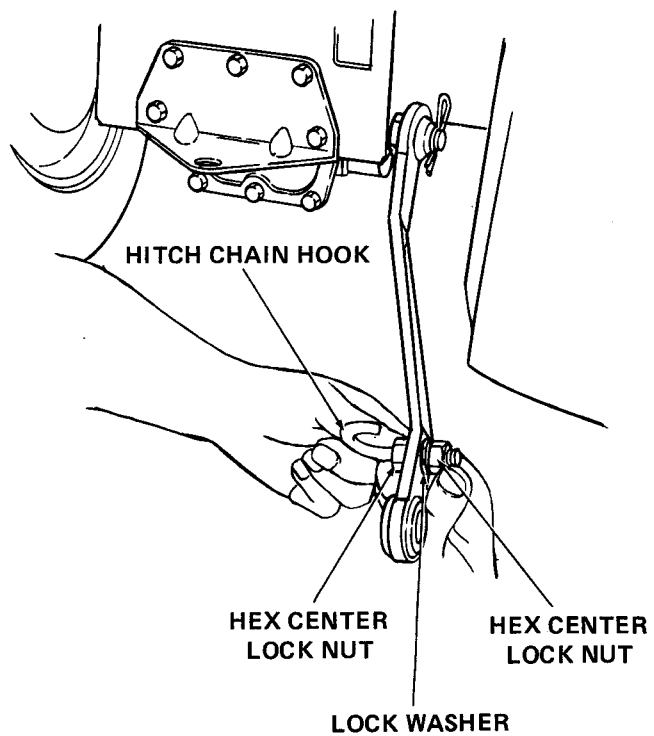

Figure A-18
7. Install hitch chain hook (P) as follows. Refer to Figure A-18.